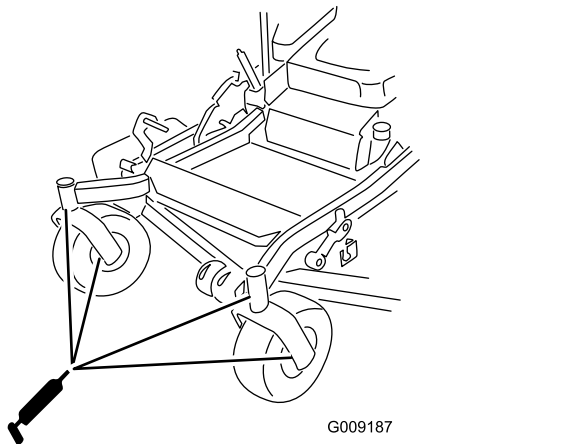

Figure 44
10. Install the hex plug and dust cap (Figure 44).
11. Grease the caster-wheel bearings (Figure 44).